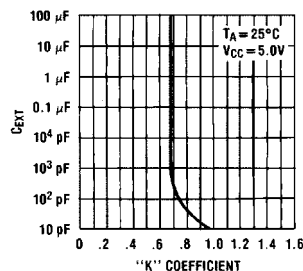

FIGURE 5.
6. The "K" coefficient is not a constant, but varies as a function of the timing capacitor C_X. Figure 5 details this characteristic.
7. Under any operating condition C_X and R_X must be kept as close to the one-shot device pins as possible to minimize stray capacitance, to reduce noise pick-up, and to reduce $I \times R$ and $L di/dt$ voltage developed along their connecting paths. If the lead length from C_X to pins (10) and (11) is greater than 3 cm, for example, the output pulse width might be quite different from values predicted from the appropriate equations. A non-inductive and low capacitive path is necessary to ensure complete discharge of C_X in each cycle of its operation so that the output pulse width will be accurate.